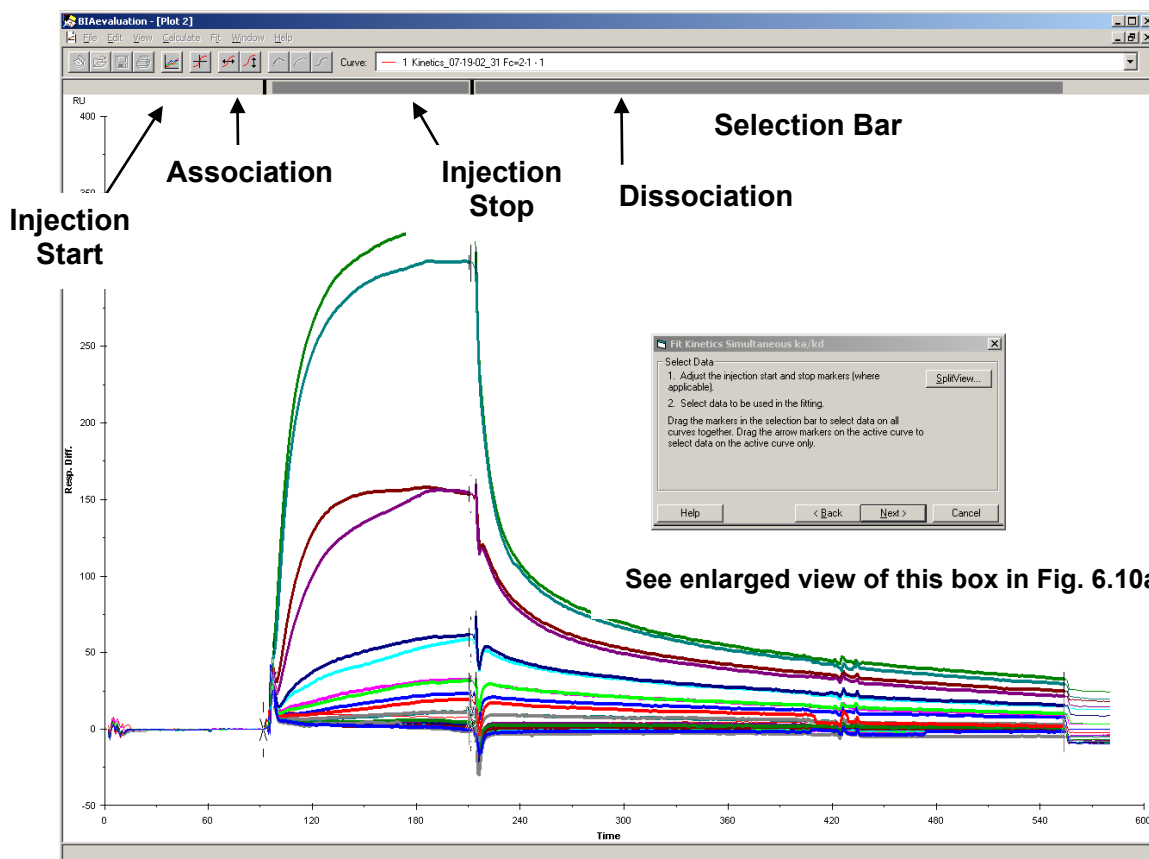

Figure 6.10
- 6.27 Data selection window will open (Fig 6.10).
- 6.28 Select the data using the markers (Injection start, Association, Injection stop and Dissociation) on selection bar (Fig 6.10).